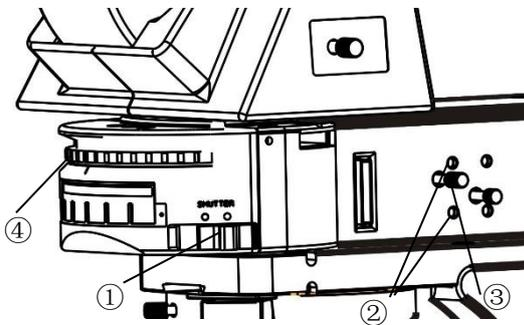

Fig.22
### 3-18 Reflective optical path choice (Fig.22)
Rotate the splitter chamber (Num.④, Fig.22) to the spectroscopy assembly room according to the requirements of the required observation path.
The field stop adjusts the lighting area to produce high-contrast images. According to the objective lens used, Adjust the aperture knob of the field (Num③, Fig22) of view of the reflecting illuminator until the aperture image is outside the field of view, to screen out unnecessary light.